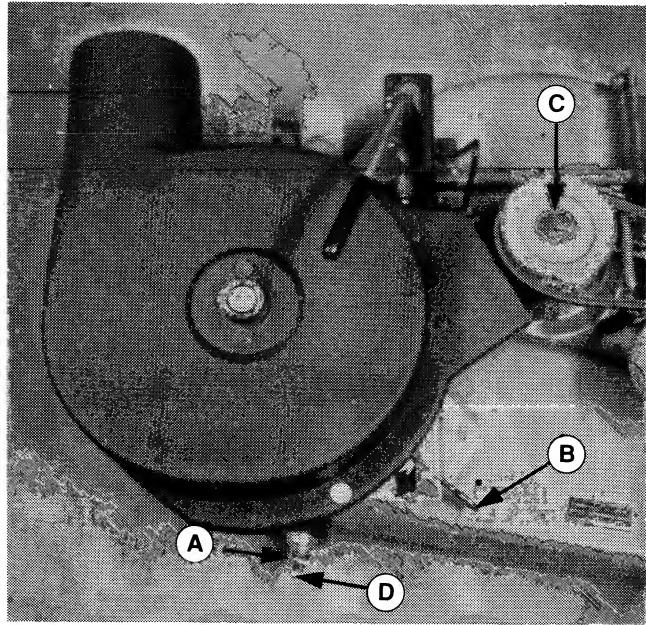

Figure 7.
- a. Slide the blower into position as shown in figure 7. and tighten the wing nut (A, figure 7).
- b. Push the belt retainer (B) to provide slack and install belt onto lower groove in pulley (C). (Rotate pulley while placing belt on.)
9. Place the deck drive belt in the upper groove of the pulley (C, figure 7).